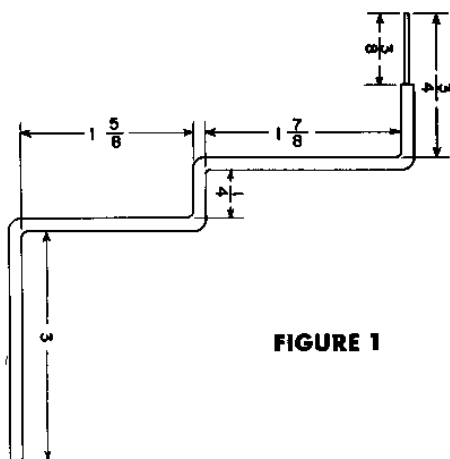

FIGURE 1
74. (✓) Cut a 13-1/2" length of RED/WHITE lead. Connect it from SW-3 lug 4 (S-1) to V3 lug 3 (NS).
75. (✓) Connect a 0.005 μ f 20% ceramic disc capacitor C16 from V3 lug 3 (S-2) to V3 lug G4 (NS). Keep leads short.
76. (✓) Cut a 14-1/4" length of RED/WHITE lead. Connect it from V2 lug 8 (NS) to R5 lug 2 (S-1). Dress the lead as shown.
79. (✓) Connect a 0.005 μ f 20% ceramic disc capacitor C14 from V3 lug 6 (S-1) to V3 lug G3 (NS). Keep capacitor leads short.
80. (✓) Connect a 0.005 μ f 20% ceramic disc capacitor C15 from V3 lug 4 (NS) to V3 lug G4 (S-2). Keep capacitor leads short.
81. (✓) Cut each lead of a 10 ohm 1/2 watt resistor (brown, black, black, silver) R13 to 1-3/4". Connect it from V3 lug 4 (NS) to V3 lug G3 (S-2).
82. (✓) Cut a 7-5/8" length of heavy YELLOW lead (#18). Prepare this lead exactly as shown in Figure 1.